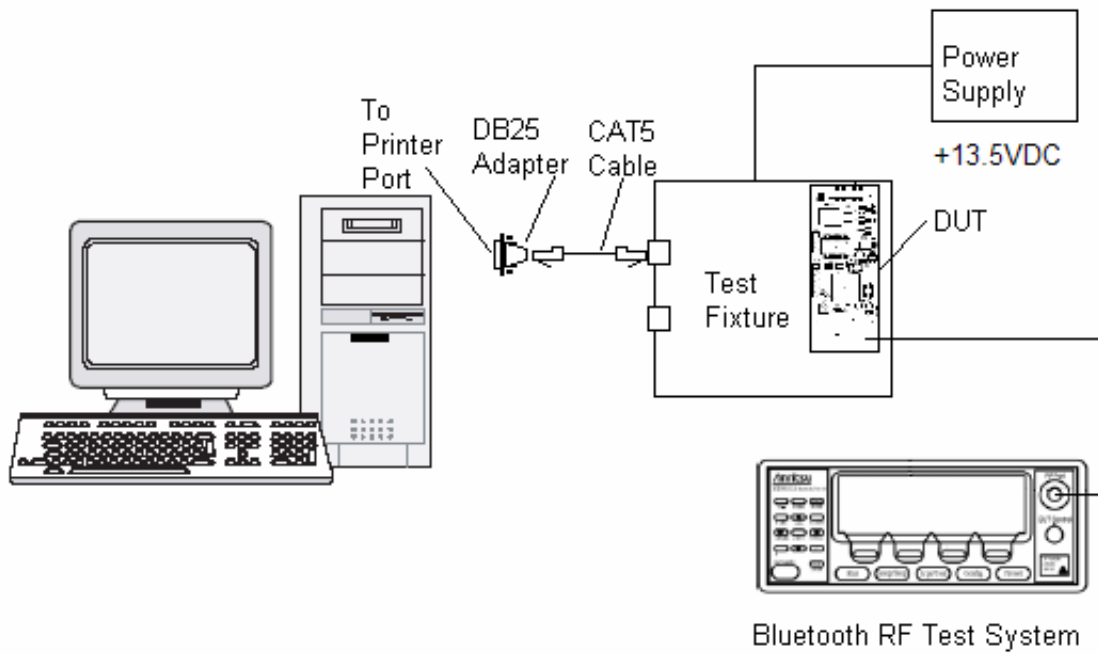

Figure 2. Blue Nile operational test setup.
1. Connect the equipment as shown in Figure 2.
Connect the Blue Nile as shown in Figure 2 for operational testing.